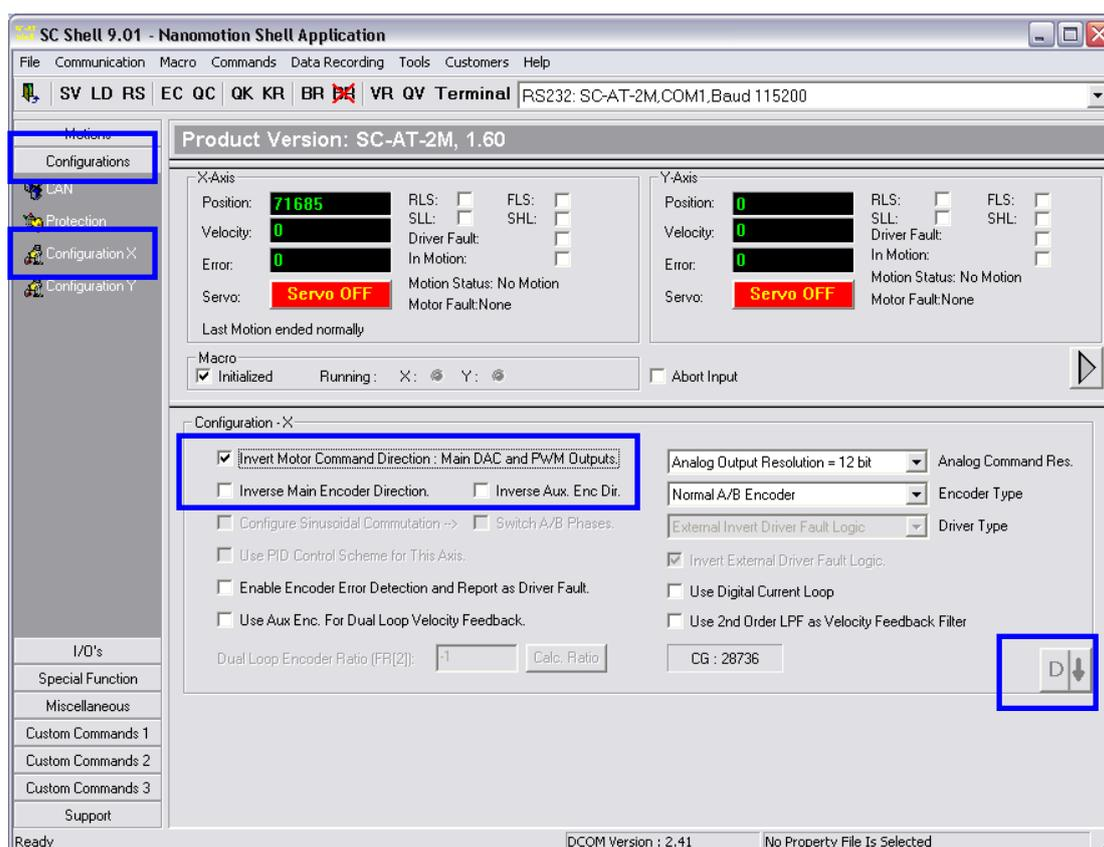

Figure 7: Setting the Position Counts Direction
- c) Select the “Invert Motor Command Direction” check box (if this check box is clear, and vice versa) or select “Inverse Main Encoder¹ Direction” check box (if this check box is clear, and vice versa), see Figure 7.
- In case, the Position increases in positive direction, but the user is interested in positive direction in the opposite direction, select both check boxes and press on  button to download data to the controller, see Figure 7.